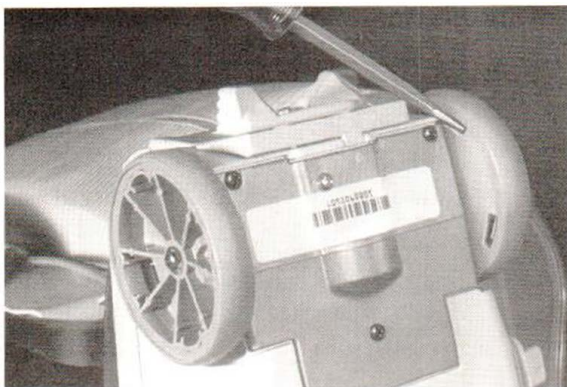

Figure 24. Drive Wheel Cover and Wheel Replacement
- A. See Figure 24. Insert a thin flat bladed screwdriver through slots in back of wheel and gently twist to release spring tabs of wheel covers. Lift off wheel covers.